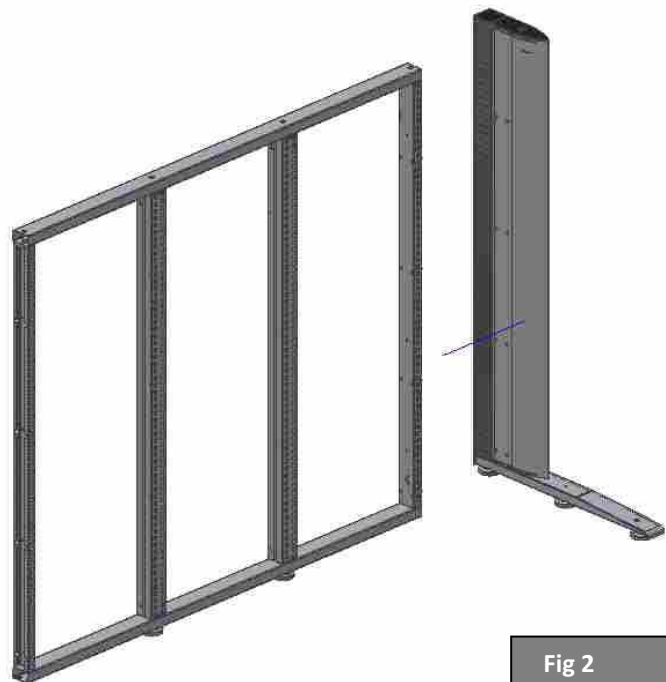

Fig 2
STEP 1 – Before positioning a **side** on the **frame**, remove all the **trim screws** from the side on which you are going to mount the **frame** (Fig. 2). If the **side** is a middle one, remove all the **trim screws**.